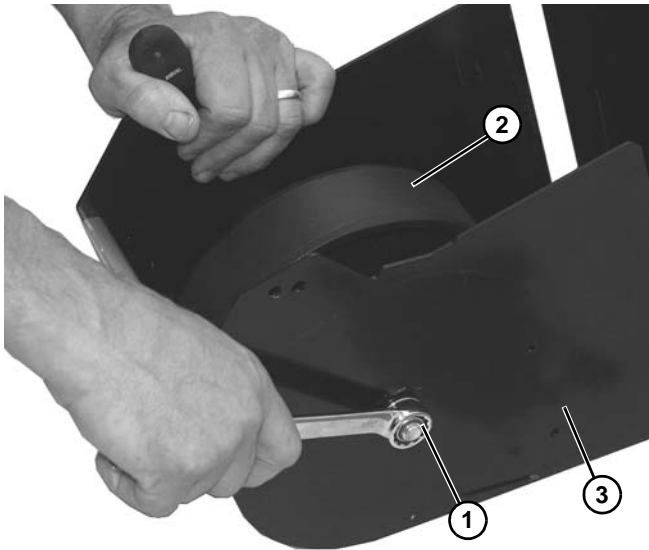

Figure 136
3. Use two wrenches to remove nut (**Figure 136, item 1**) on bolt securing wheel (**Figure 136, item 2**) onto weighted take up assembly housing (**Figure 136, item 3**).